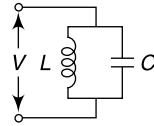

Fig. 5.52 Circuit diagram for Ex. 5.55
5.55 In the circuit shown in Fig. 5.52 show that the circulating current at resonance is